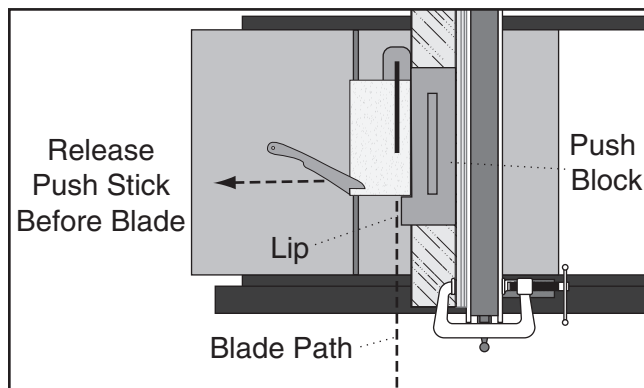

Figure 85. Ripping with push block.
6. Guide workpiece rest of way through cut with push block, as shown in **Figure 85**.